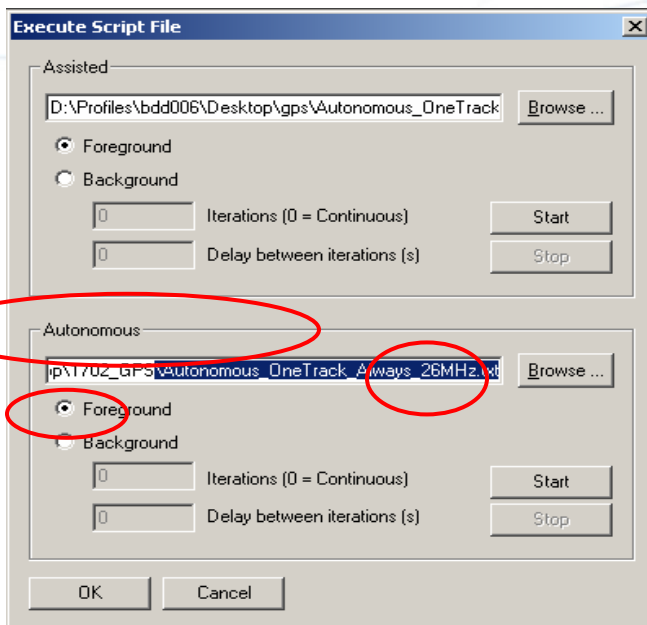

Figure 9 Script File
4. When it finishes loading click on “**OK**”. - (see figure 9)